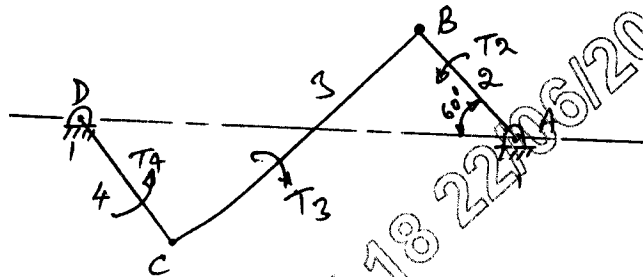

Fig Q2(b)
b. In a four bar mechanism shown in Fig Q2(b) Torque T_3 and T_4 have magnitudes of 3000 Nm and 2000 Nm respectively. Take $AD = 800$ mm, $AB = 300$ mm, $BC = 700$ mm and $CD = 400$ mm. For static equilibrium of mechanism, find the required input torque on the crank.